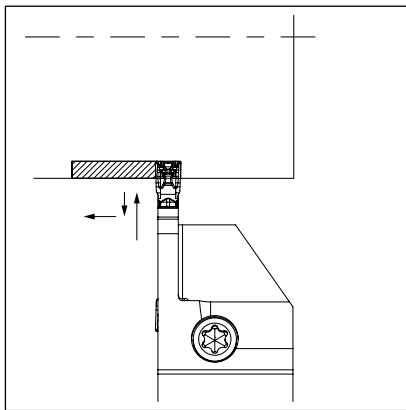

Fig. 1
1. **Grooving depth over 0.5 mm:** For roughing - refer to fig. 1